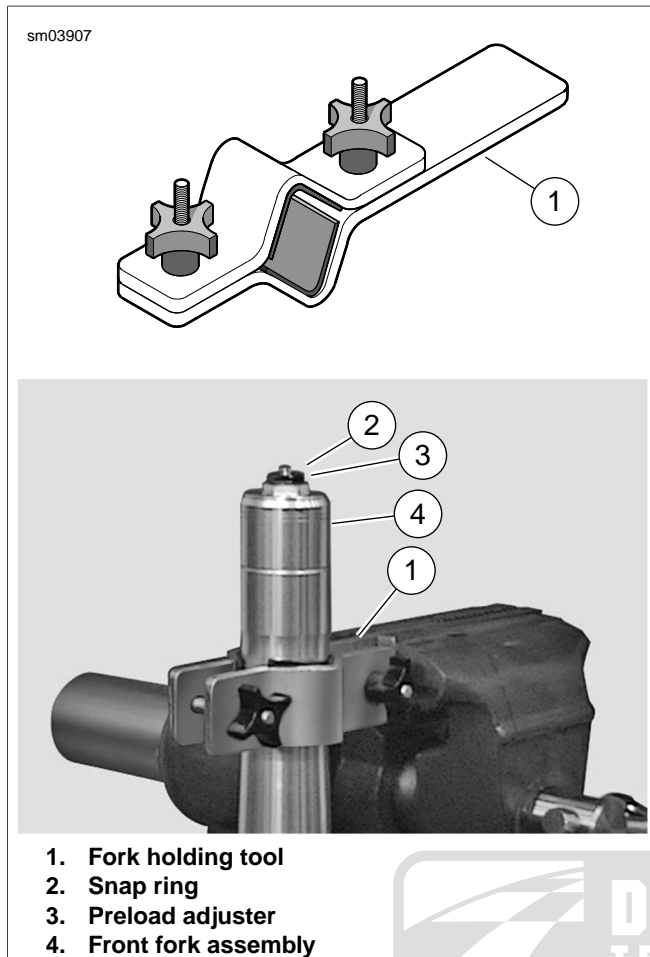

Figure 2-90. Fork Holding Tool
- See Figure 2-90. Clamp the FORK HOLDING TOOL (Part No. HD-41177) (1) in a vise and install the upper part of the front fork in the holding tool.